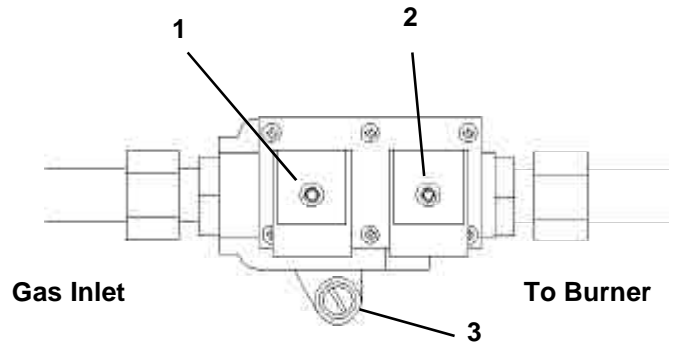

Fig 2b Gas Controls Layout CP-G 200, 300
IMPORTANT: The maximum flow and start flow adjustments provided on the GM main gas block valve assembly (Fig 2b - 4) are not used and must not be adjusted.
3. Check that the main burner gas pressure agrees with that in Tables 3.1 or 3.2. If necessary adjust the main burner gas pressure (Fig 2a - 3 or Fig 2b - 2).